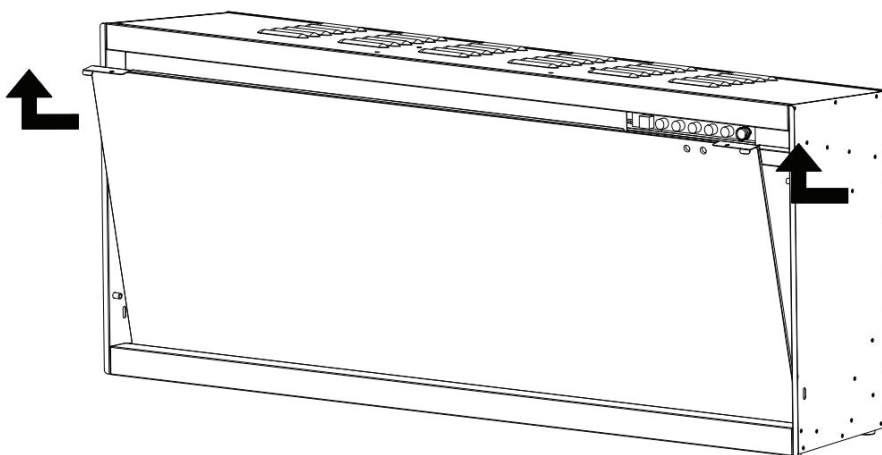

Fig.2-3
C. Carefully lift the front glass up and away from the appliance. Place it face down on a soft, non-abrasive surface. (Fig. 2-3)